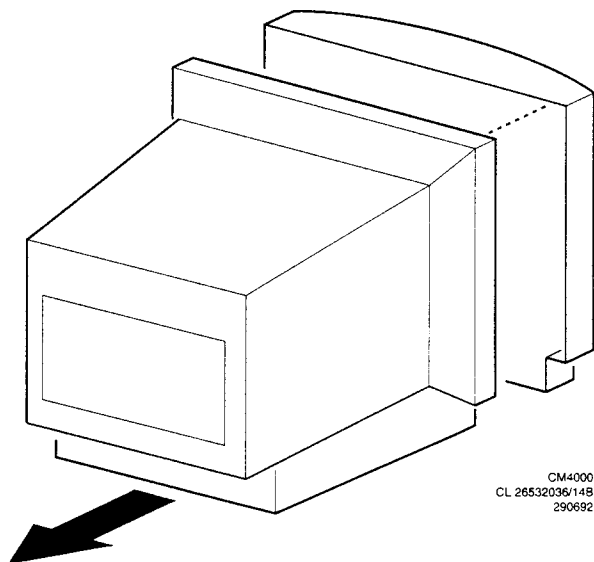

Fig. 4.2
- Remove the rear cover (6 screws), see Fig. 4.2.